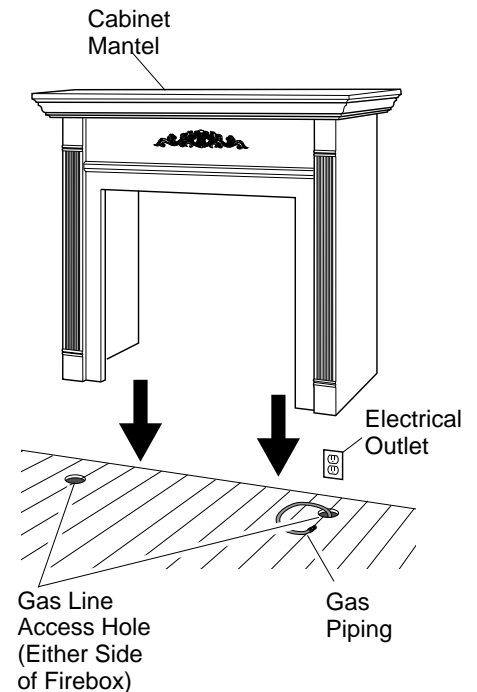

Figure 10 - Installing Cabinet Mantel
- If using an optional GA3700 Blower (circulating models only), install a properly grounded, 120 volt three-prong electrical outlet at firebox location if an outlet is not there. If possible, locate outlet so cabinet mantel will cover it when installed (see Figure 10).
- Install gas piping to firebox location. See *Installing Gas Line*, page 11. You may have to cut an access hole in the floor or wall to run gas line to firebox. Make sure to locate access hole so cabinet mantel will cover it when installed (see Figure 10).